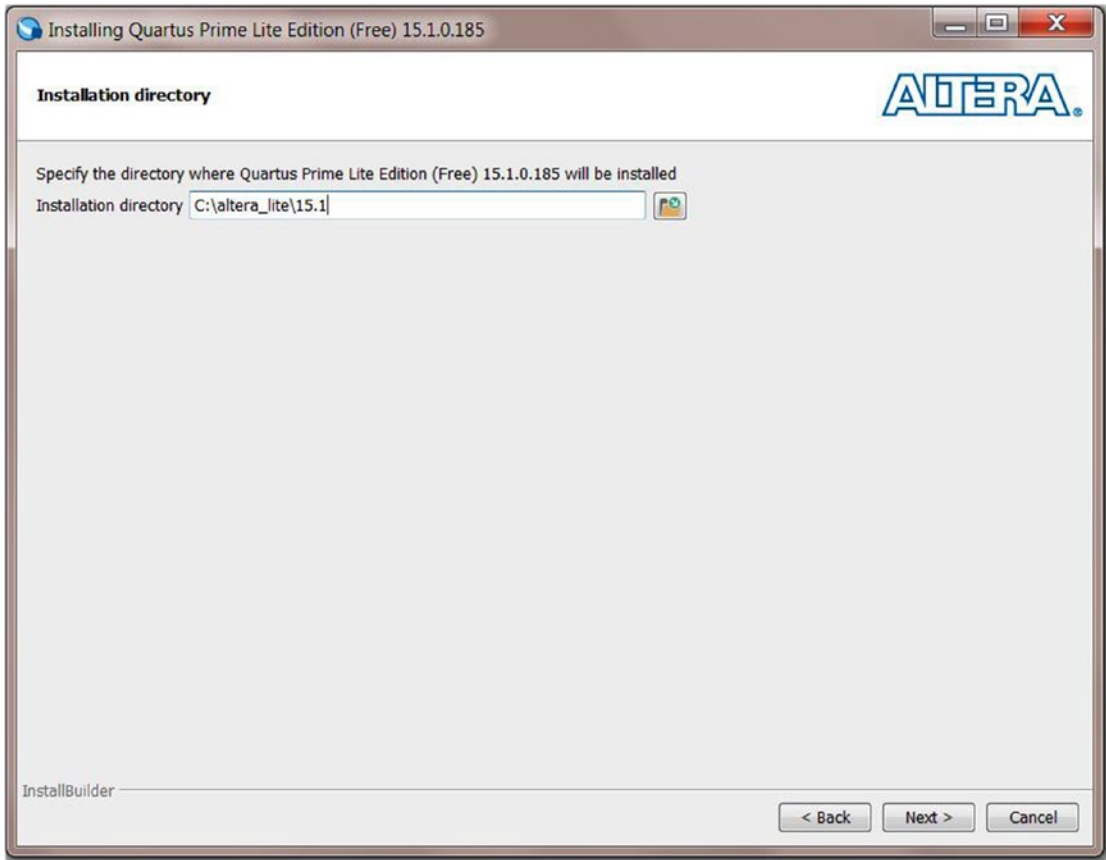

Figure 3-12. *Installation directory*
3. Select the installation location for the giant (>10GB) Quartus Prime Lite edition and click *Next* (Figure 3-12).